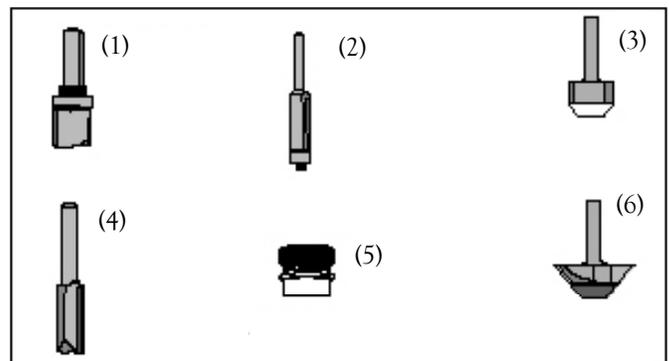
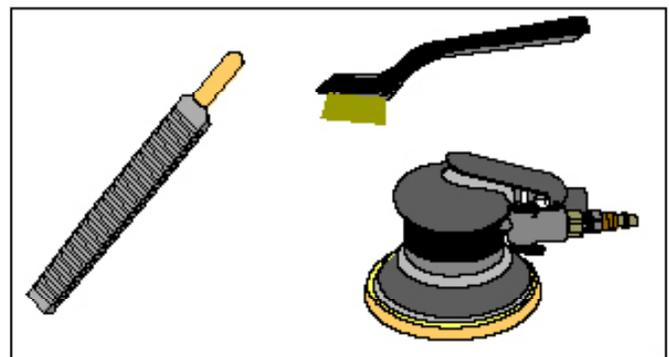

Figure 3B
Figure 3C
- General Router Bits (FIG. 3B)
- 11/8" (28.6mm) Top bearing flush trim bit (1)
- 3/4" (19mm) Straight cut bit (4)
- 3/8" (6mm) Bottom bearing flush trim bit (2)
- Template Guide (FIG. 3B)
- 11/4" (31.75mm) Template guide (5)
- HD® Sink bits (FIG. 3B)
- H1006782 - 7/8" (19mm) Flush trim bit (3)
- H1006783 - Beveled profile bit (6)
- Sanders (FIG. 3C)
- Laminate file (FIG. 3C)